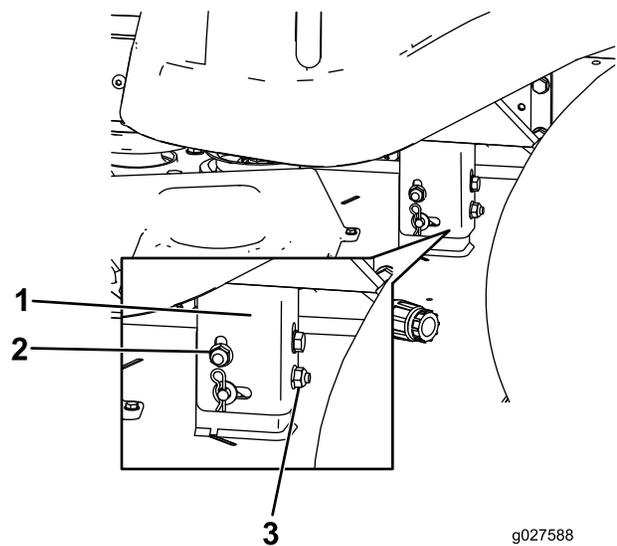

Figure 65
8. Raise or lower the left side of the mower deck by rotating the rear nut (Figure 65).
Note: Rotate the rear nut clockwise to raise the mower deck; rotate the rear nut counter-clockwise to lower the mower deck (Figure 65).